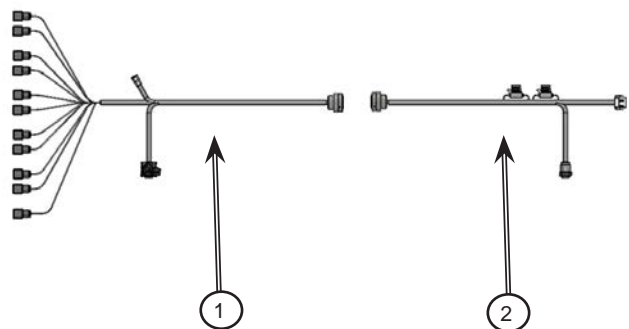

Figure 4: Current implement and joystick harnesses
5. At the hitch, disconnect the current implement harness (1) from the current joystick harness (2); see *Figure 4*.
6. Disconnect and remove the current implement harness (1) from the machine; see *Figure 4*.
9. Disconnect and remove the current joystick harness (2 in *Figure 4*).